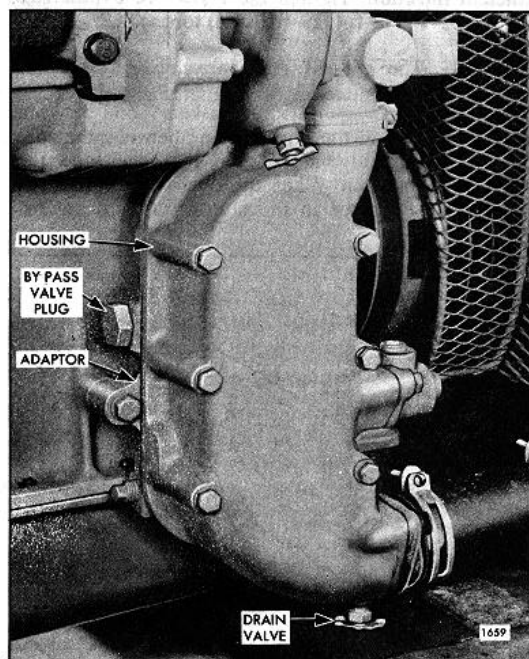

Figure 1. Typical Lubricating Oil Cooler Mounting-Radiator Cooled Engine
The lubricating oil cooler is located on the side of the engine just below the water pump (Fig. 1).
1. Drain the cooling system by opening the drain valve at the bottom of the oil cooler housing (Fig. 1).